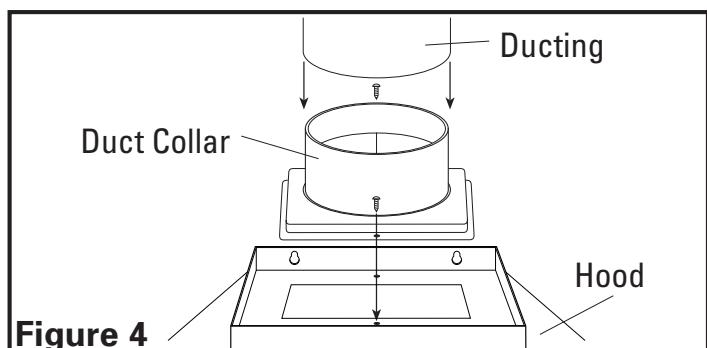

Figure 4
1. Install the included duct collar to the hood with two of the provided #6 blunt tip screws (**Figure 4**).
1. Connect the ducting to the duct collar and secure in place using tape to seal all joints (**Figure 4**).